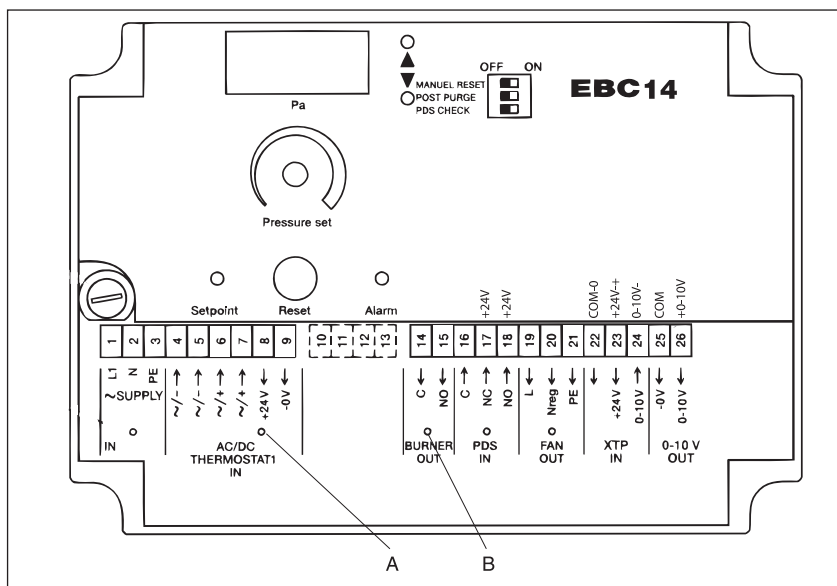

Fig. 13
4. Check that the safety system disconnects the appliance (Fig. 13-B).